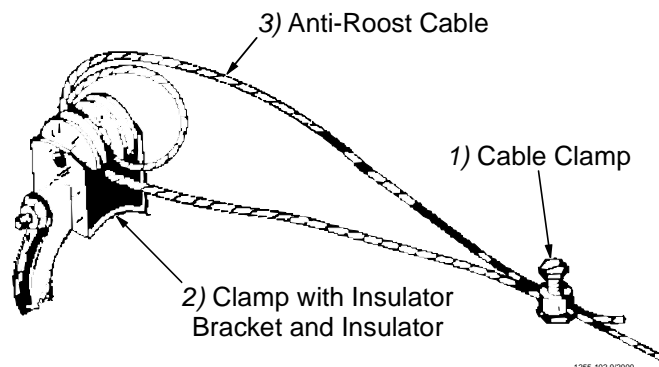

Figure 38. Anti-Roost Cable at the Hopper
2. Start at the hopper end of the line and form a loop around the anti-roost bracket. For best results, make a double loop around the anti-roost insulator in the center groove of the insulator and fasten with a 1/16" cable clamp as shown in **Figure 38**.